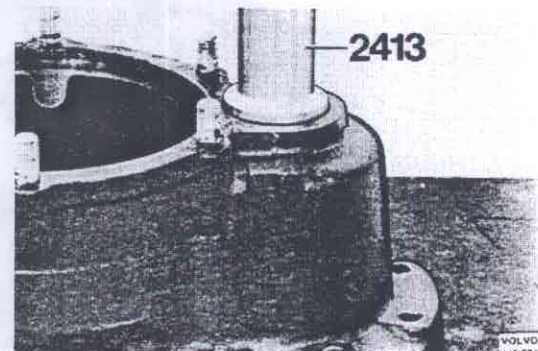

Fig. 46-122. Pressing out gear wheel
7. Place the wheel carrier in a press and press out the gear wheel, bearing and needle bearing at the same time with 2413, Fig. 46-122.